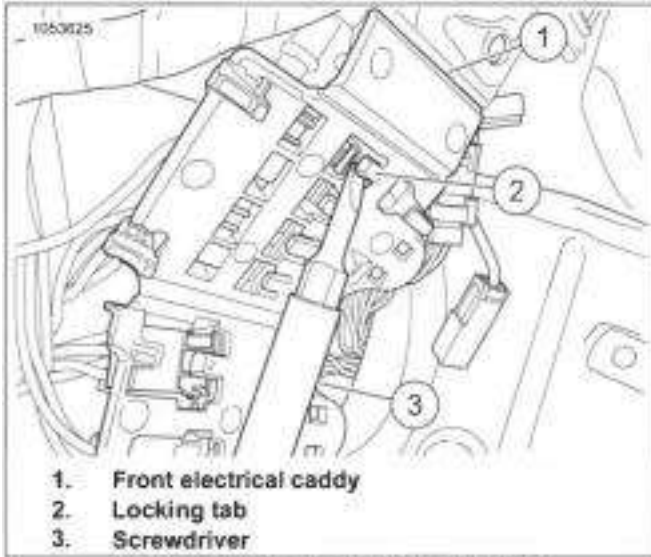

Figure 7-151. Center Fold Locking Tab
- b. See Figure 7-151. Using a small screwdriver (3), pry the connector locking tab (2) open.